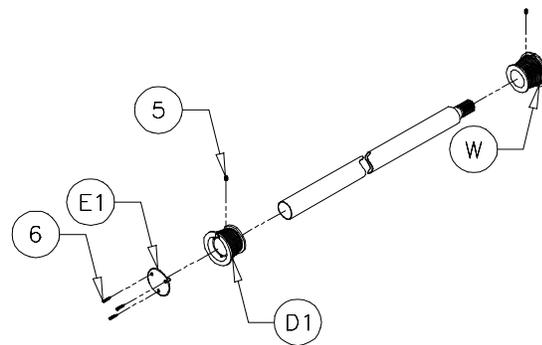

Figure 23
Pop the beveled pulley end cap (E1) on front pulley and tighten with three 6x1" flat head socket sheet metal screws (6). (Figure 23)